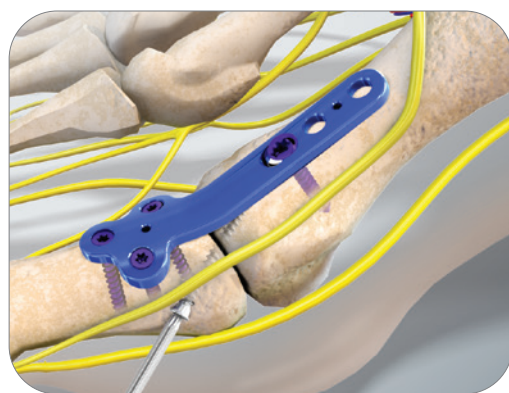

Figure 7-4
**7-4** The 1.8mm drill bit is removed and the 2.7mm drill bit (magenta color) is inserted until it reaches the prepared joint site. The 2.7mm drill bit clears out enough bone in the proximal phalanx to allow the 2.7mm screws in the system to pass clearly and compress the fusion site (**Figure 7-4**).